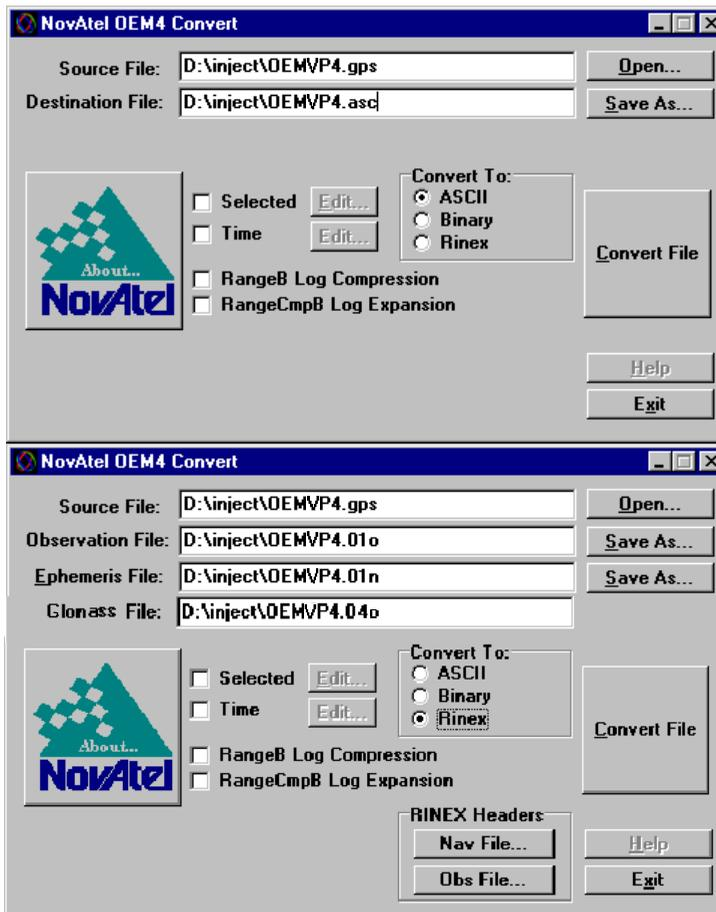

Figure 11: Convert4 Screen Examples
Convert4 is a 32-bit Windows application and is shown in *Figure 11*. Convert4 will accept GPS file formats and convert them to ASCII, Binary or Rinex format. The application also allows the user to screen out particular logs by selecting the desired logs from the list of available logs. This feature is useful for screening particular logs out of large data files in either ASCII or Binary formats.
Selecting the RINEX field, see *Figure 11, Convert4 Screen Examples on Page 44*, in the Convert4 To section causes the:
- Information from this log overrides data entered into the Receiver Number, Type and Version fields using the OBS file button of the RINEX Headers section, see *Figure 11 on Page 44*.